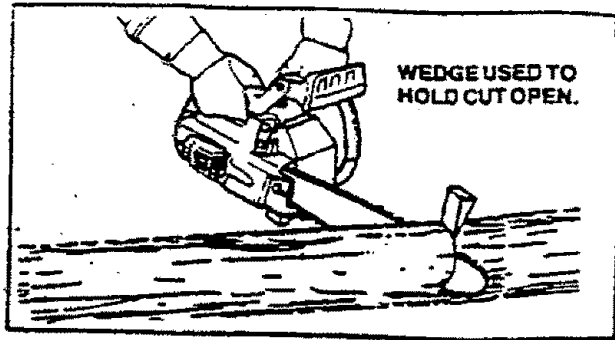

Figure 23
If saw becomes pinched or hung in a log, don't try to force it out. You can lose control of the saw resulting in serious injury and/or damage to the saw. Stop the saw; drive a wedge of plastic or wood into the cut until the saw can be removed easily. Figure 23. Restart the saw and carefully reenter the cut. To avoid kickback and chain damage, do not use a metal wedge. Do not attempt to restart your saw when it is pinched or hung in a log.
3. BUCKING—WITHOUT A SUPPORT (Figure 23)